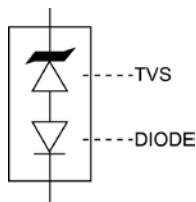
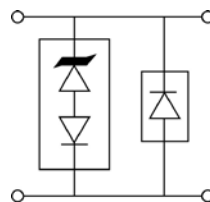

FIGURE 4
FIGURE 5
2. With a repetition rate of 0.01% or less. When pulse testing, do not pulse in opposite direction (see “application schematics” section herein and figures 5 & 6 for further protection in both directions.)
The TVS low capacitance device configuration is shown in figure 4. As a further option for unidirectional applications, an additional low capacitance rectifier diode may be used in parallel in the same polarity direction as the TVS as shown in figure 5. In applications where random high voltage transients occur, this will prevent reverse transients from damaging the internal low capacitance rectifier diode and also provide a low voltage conducting direction. The added rectifier diode should be of similar low capacitance and also have a higher reverse voltage rating than the TVS clamping voltage V_C . The Microsemi recommended rectifier part number for the application in figure 5 is the “SMBJLCR80” or “SMBGLCR80” depending on the terminal configuration desired. If using two (2) low capacitance TVS devices in anti-parallel for bidirectional applications, this added protective feature for both directions (including the reverse of each rectifier diode) is inherently provided in Figure 6. The unidirectional and bidirectional configurations in figure 5 and 6 will both result in twice the capacitance of figure 4.